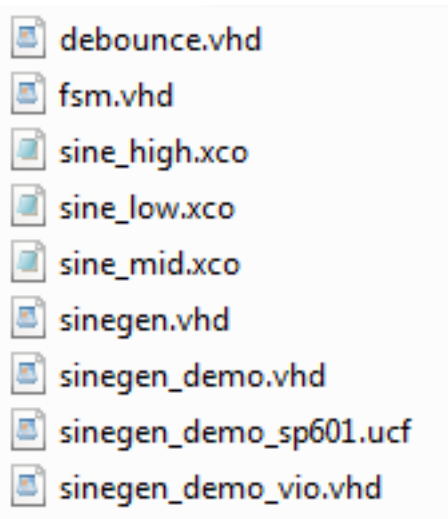

Figure 2: Tutorial Design File Set
4. When unzipped, look in ChipScope\_PlanAhead/PlanAhead\_Tutorial/Sources/chipscope/pa\_cs\_tutorial/src for the files and folder shown in Figure 2.